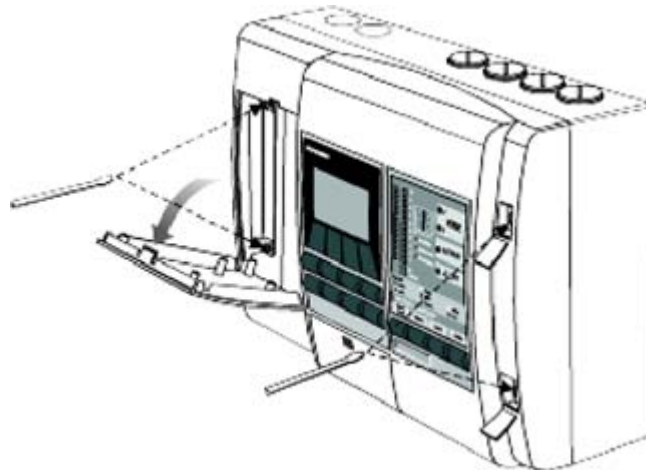

Figure 7-4: Removing the VLP or VLS front cover for chassis replacement
4. Remove the front panel by first opening the cover plate and screw covers, then unscrewing the cover plate screws as shown in Figure 7-4 below.
21. Close the detector. Refer to Figure 7-4